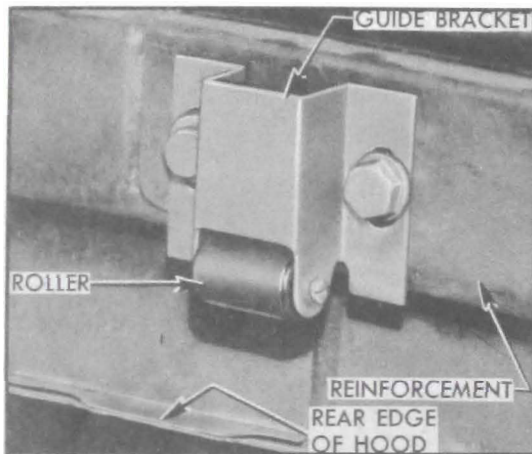

Figure 12-4—Hood Guide Bracket
The front end of hood is locked down by a dovetail bolt on hood which engages a lock lever in the latch mounted on a panel of the front end sheet metal assembly. Proper tension on the latching parts is maintained by a spring and retainer which surrounds the dovetail bolt. The hood is unlocked by pulling a knob located at lower left side of instrument panel. The knob operates a control cable attached to the lock lever in the latch assembly. A safety hook mounted on the hood must then be pulled forward before the hood can be raised. See Figures 12-4.
A roller type guide mounted on the rear hood reinforcement at center contacts a guide pad mounted on the body cowl to provide proper clearance between hood and cowl when hood is raised and lowered. See Figure 12-4.
(4) *Hood Guide Bracket*. Slotted bolt holes permit endwise movement of the hood guide bracket on hood reinforcement. See figure 12-4. The guide roller pad on body cowl is not adjustable.